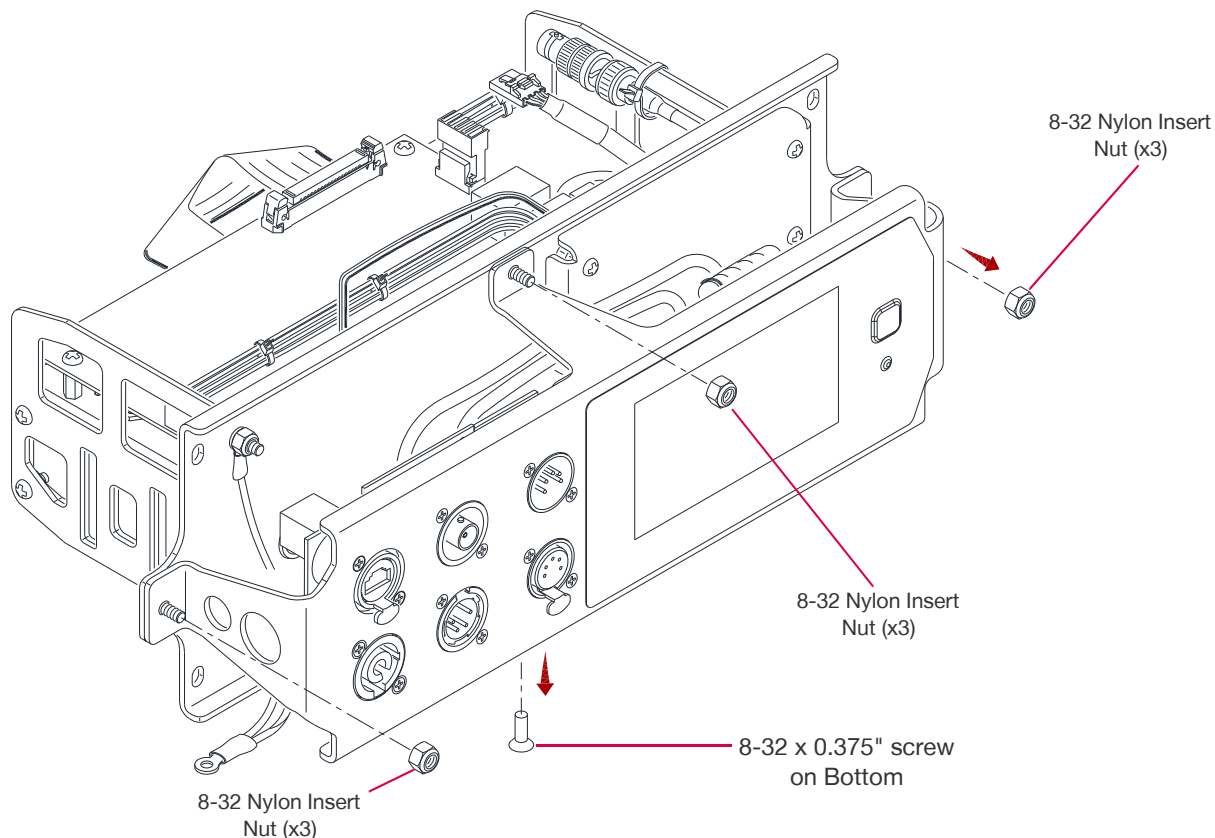

Figure 3-61: Removing the Interface/LVS Front Panel
- Step 4. Remove one 8-32 x 0.375" screw from the bottom of the Interface Front Panel. (Figure 3-61)
- Step 5. Remove the three 8-32 nylon insert nuts securing the Front panel to the LVS. (Figure 3-61)